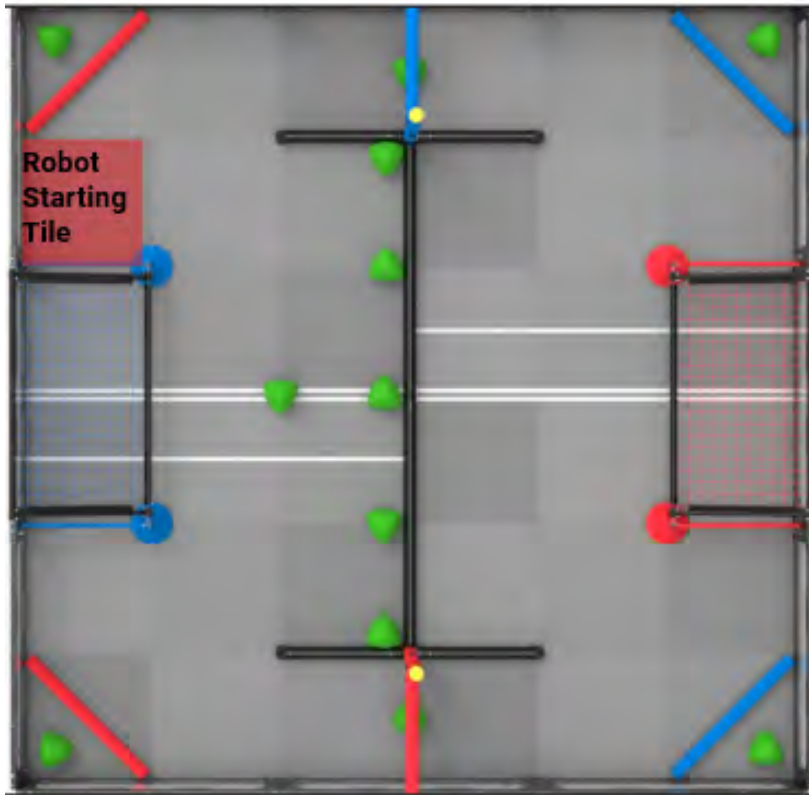

Figure 21: A depiction of the Robot Starting Tile and the boundaries.
Starting Tile – The gray foam tile along the edge of the field perimeter to the left of the Blue Alliance Goal. See Figure 21.
- a. Contacting the Robot Starting Tile. See Figure 21.
- c. Not contacting any Triballs other than a maximum of one (1) Preload. See rule <SG4>.
- f. *Teams* may use the two (2) red *Alliance Preloads* as follows:
- g. The two (2) blue *Alliance Triballs* are not used in *Robot Skills Matches*.